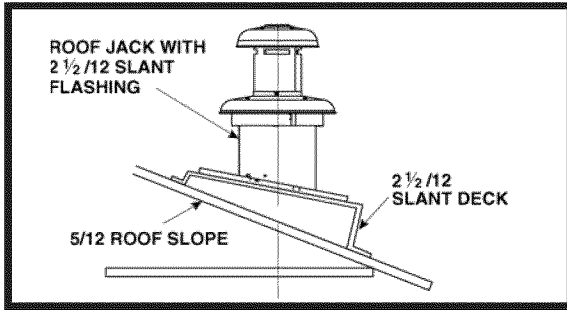

Figure 18. Example of 2 1/2 /12 Slant Jack with Flashing
3. Add dimensions A + B (and X from Table 5 and Figure 18 if slant deck flashing is used). The total length of (A + B + X) must be within the minimum and maximum range of one of the Roof Jacks listed in Table 4.
S = Slant Flashing: 2.5/12 Slope flexes from 1/12 to 4/12 roof slope, 4/12 flexes from 3/12 to 5/12. See Figure 18.